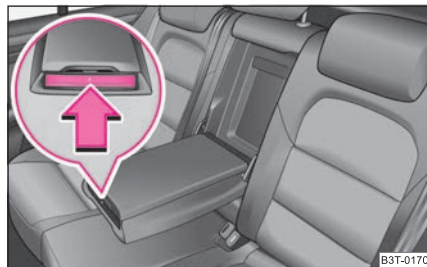

Fig. 85 Armrest of rear seats:
- If you press on the face end of the armrest in the direction of arrow ⇒ page 84, fig. 85, the cup holder comes out.